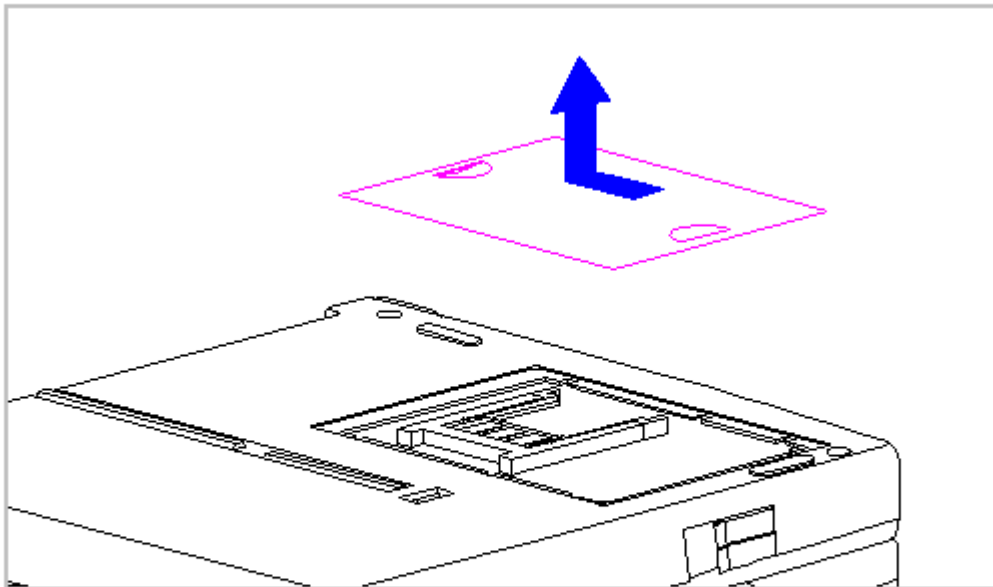

Figure 5-11. Removing the Memory Compartment Cover
3. Slide the memory compartment cover toward the rear of the computer and lift up (Figure 5-11).